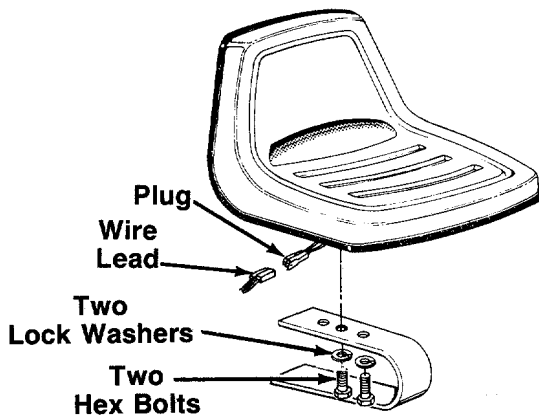

FIGURE 4.
1. The seat may be adjusted to two different positions. Select desired position and secure to seat spring with two hex bolts and lock washers. See figure 4.
← 2. Plug the wire lead which is in the wire harness beneath the seat into the plug on the wire lead extending from the right hand side of the seat. See figure 4.